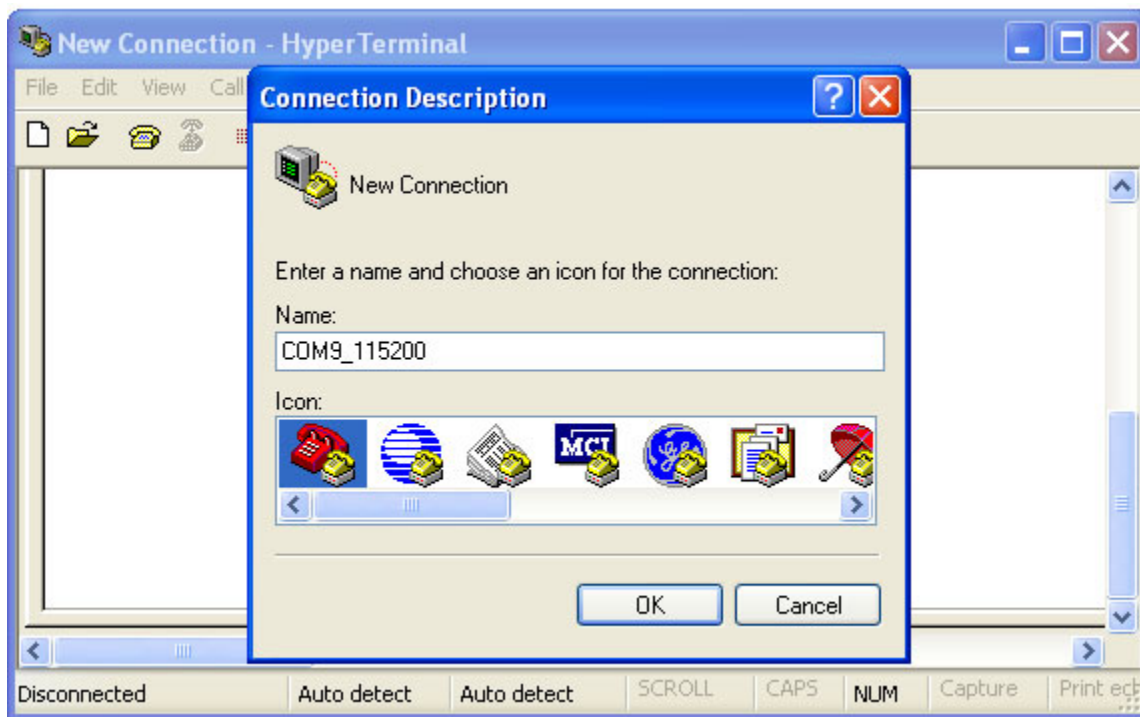

Figure C-5. HyperTerminal GUI
4. The HyperTerminal opens as shown in Figure C-5. Enter the name of the connection and click on the OK button.